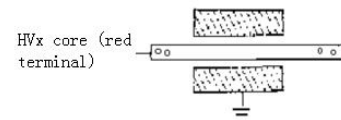

Figure 11 Connection of bushing
(1) Core to end shield and ground
A. See Figure 11